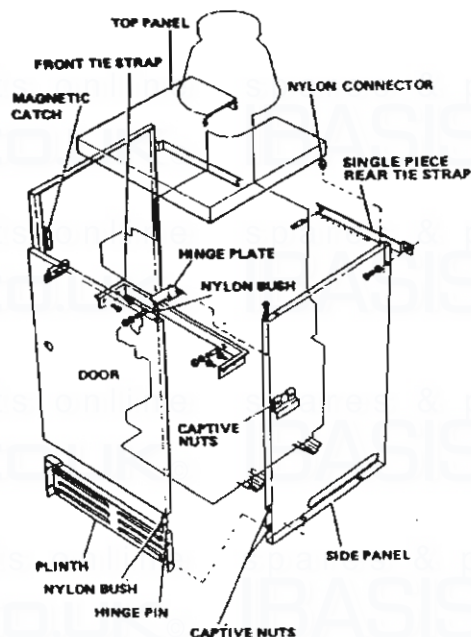

Fig. 14 CASING - CF125 & 150
8. CASING — See figures 14 and 15